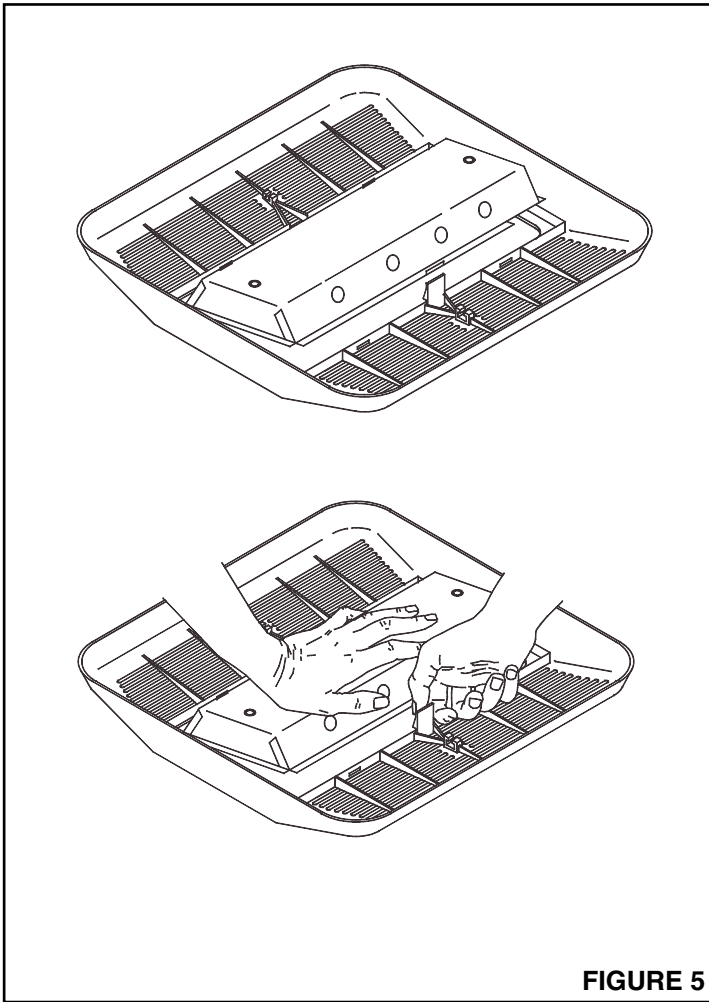

FIGURE 5
1. **Refer to Figure 5.** Open reflector on back of grille by depressing latch and lifting up on reflector. Install one 26 watt compact fluorescent lamp NEMA type CFQ26W/G24D. Note: The reflector holds the glass diffuser in place. Be careful that diffuser does not drop out of grille. Close reflector and snap into position.
2. **Refer to Figure 5.** Place the grille on a table or counter top. Open reflector by depressing latch and lifting up on reflector. Note: Reflector holds glass diffuser in place. Be careful that diffuser does not drop out of grille. Relamp lamp with one 26 watt NEMA type CFQ26W/H24D fluorescent lamp. Close reflector and snap into position.